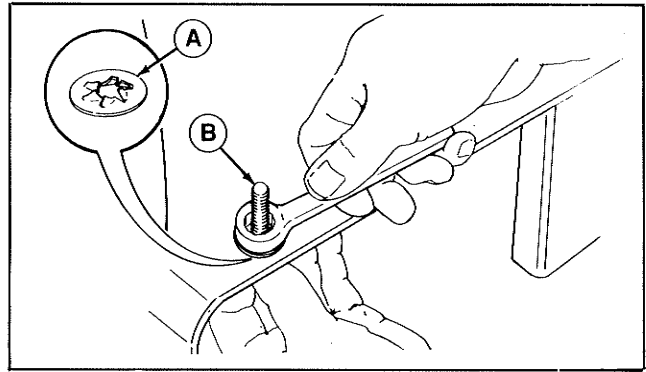

Figure 9.
16. Reinstall the deflector carriage bolts (B, figure 9) and the supplied push nuts (A);